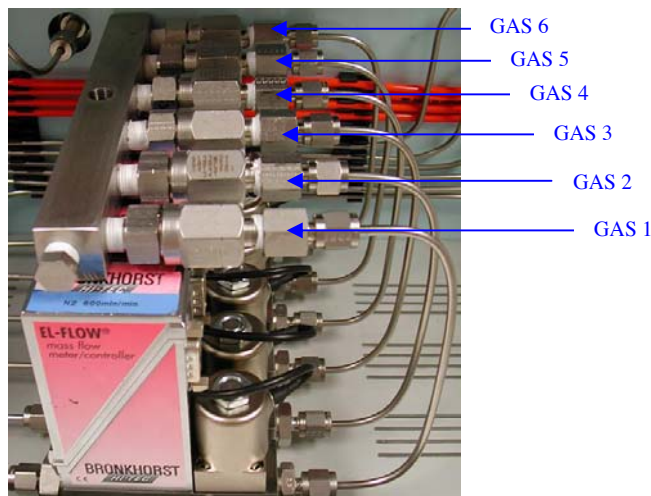

Figure 7-3
3. Locate the MFC that is to be replaced (see Figure 7-3), disconnect the control cable, unscrewing the unit's lower panel and releasing the end connections.